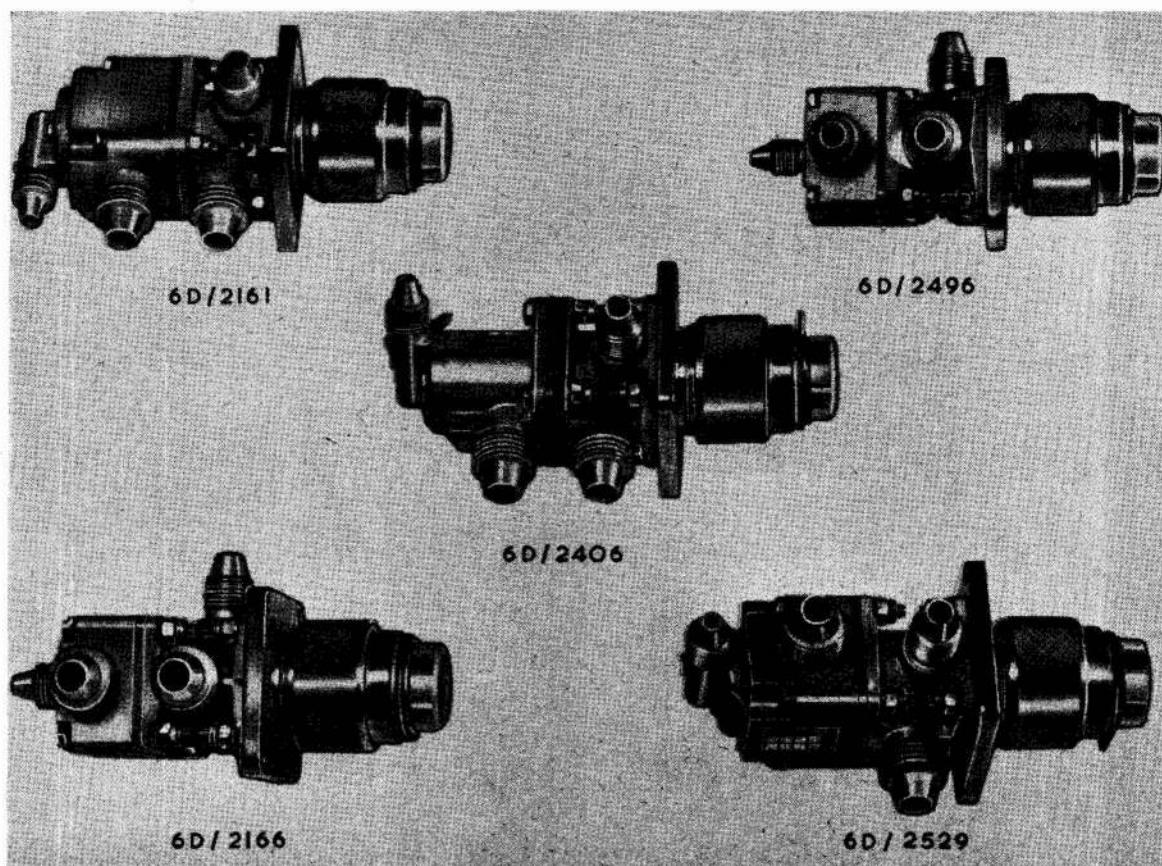

Fig. 4. Fill and vent valves
7. The fill and vent valve, Ref. No. 6D/2166 (801416), is identical in application and internal construction to the valve described in this chapter and differs only externally (fig. 4). The external difference is that the pipeline connection from this unit to the pressure control valve, is located in line with the valve body to suit a particular aircraft liquid oxygen installation.
8. Referring to fig. 4, the fill and vent valve, Ref. No. 6D/2161 (801424), is identical in application and internal construction to the valve described in this chapter and differs only in the disposition of the connection to the pressure control valve. With this valve the pressure control valve connection is disposed at right-angles to the body and in the same plane as both the gas and vent connection, to suit a particular aircraft liquid oxygen installation.
9. The fill and vent valve, Ref. No. 6D/2406, (802224), is identical in application and internal construction to the valve described in this chapter, and differs only externally (*fig. 4*).
12. This valve which is used in conjunction with a 25-litre liquid oxygen container, is suitable for liquid oxygen systems in Transport type, aircraft, the outlet (*fig. 4*) being increased to 0.75 in. to allow for increase oxygen supply.
13. The fill and vent valve, Ref. No. 6D/2529 (802168), is identical in application and construction to other valves described in this chapter, with the exception that it differs in the disposition of the pipeline connections (*fig. 4*).